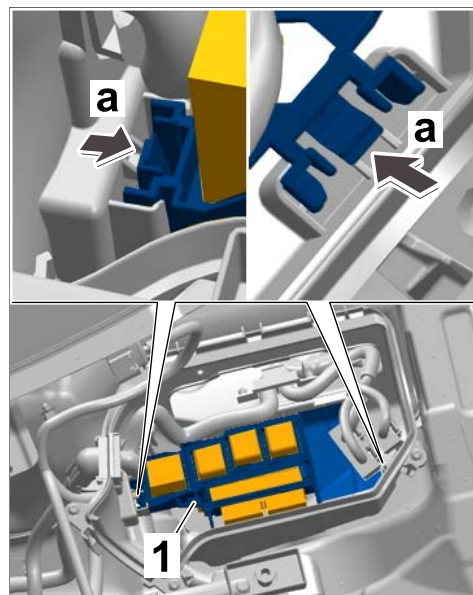

Figure 9
- 1.14.4 Release fuse box ⇒ *Figure 9-1-* at the left and right ⇒ *Figure 9-a-* and set it aside.